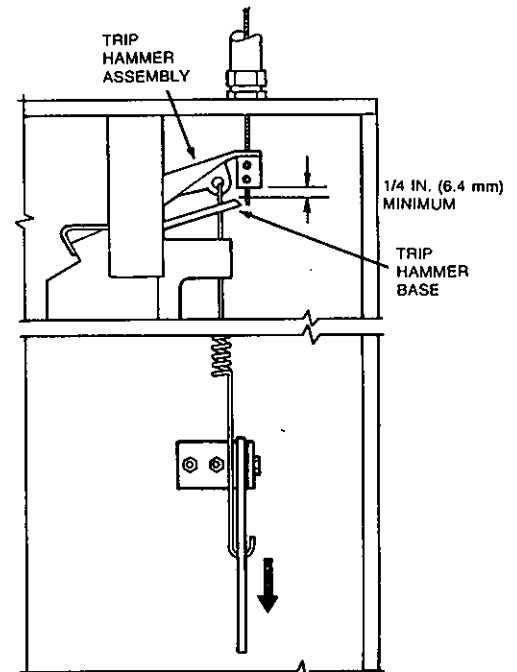

FIGURE 8
- ▶ 27. Inspect the base of the wire rope clamping device to make certain that there is a minimum of 1/4 in. (6.4 mm) clearance between the base of the trip hammer assembly and the cable lever assembly. See Figure 8.